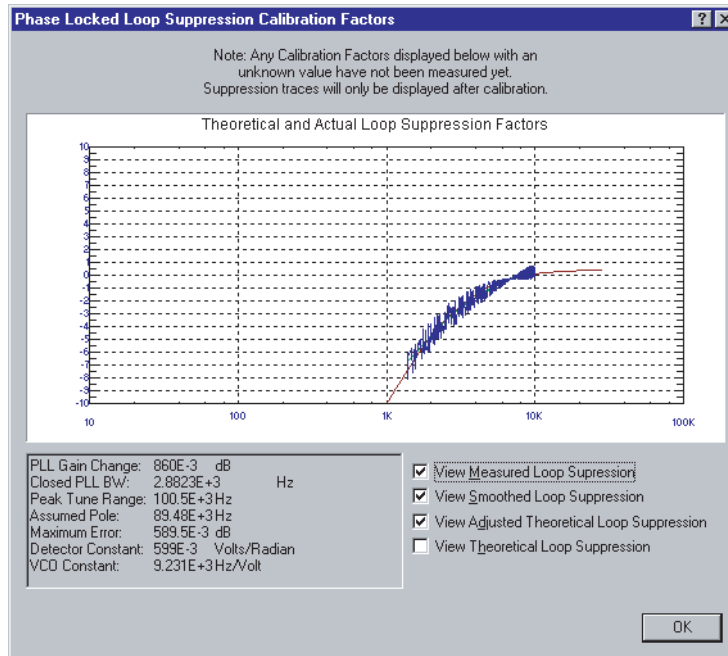

Figure 107 Selecting suppressions
- 2 When the PLL Suppression Curve dialog box appears, select **View Measured Loop Suppression**, **View Smoothed Loop Suppression**, and **View Adjusted Loop Suppression**. See Figure 107 on page 157.